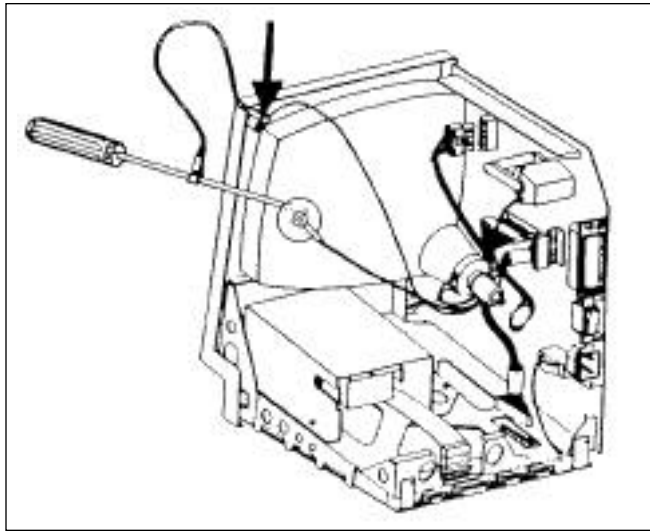

Figure 1 : Discharging the CRT
- use a CRT discharge tool as shown in Figure 1